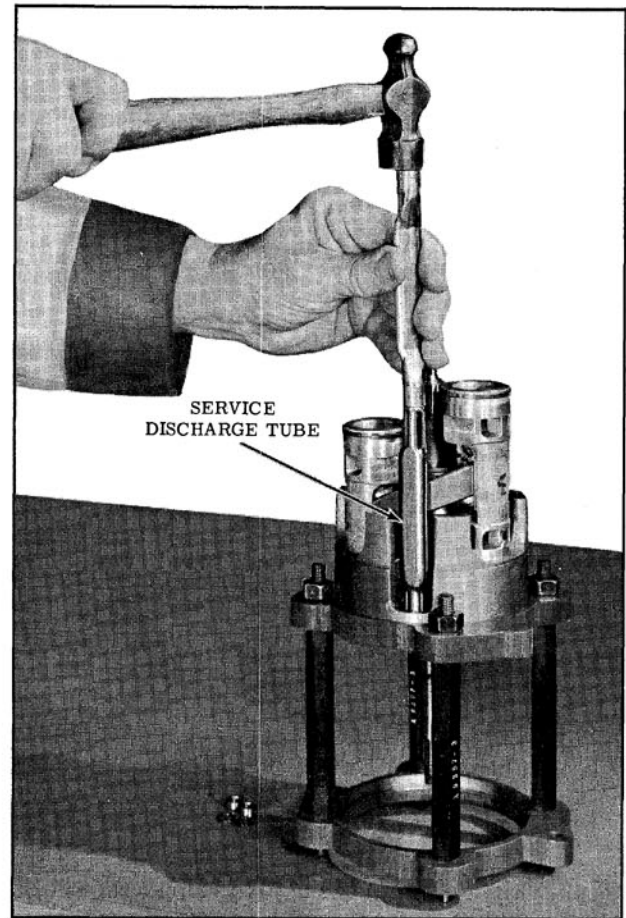

Fig. 14-121 Installing Discharge Tube
20. Assemble one end of the service discharge crossover tube into the hole in the front cylinder. (Fig. 14-121)